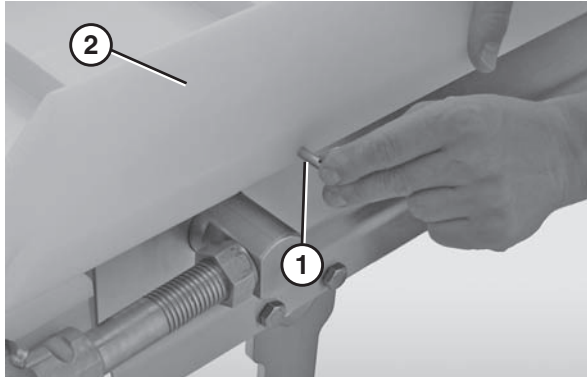

Figure 42
1. Remove the guides, if applicable, by removing the pull pins (**Figure 42, item 1**) that connect the guide (**Figure 42, item 2**) to the frame.